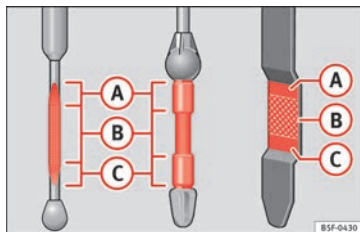

Fig. 207 Engine oil dipsticks.
» Fig. 207.
- The oil level must never exceed area **A** » Fig. 207. Risk of damage to the exhaust system!